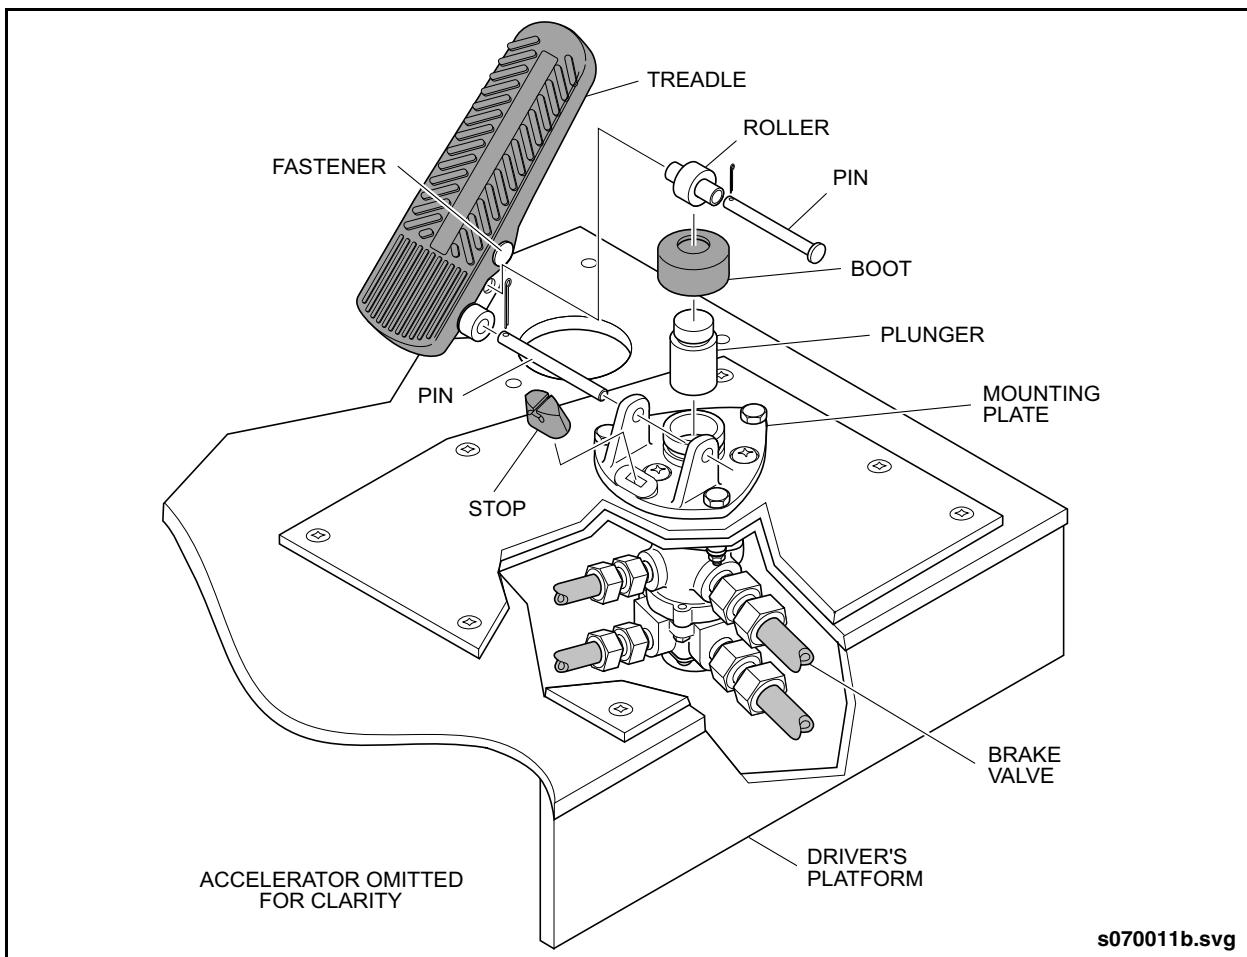

Fig. PM-36: Brake Valve Inspection
- Remove any accumulated contamination, such as dirt and gravel, from the heel of the treadle, the plunger, the plunger boot and the mounting plate. See "Fig. PM-36: Brake Valve Inspection" on page 75.